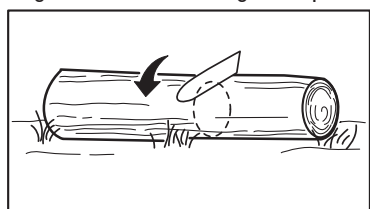

FIG. 4
1. Trunk supported along its entire length: Cut from the top down (Fig. 4).